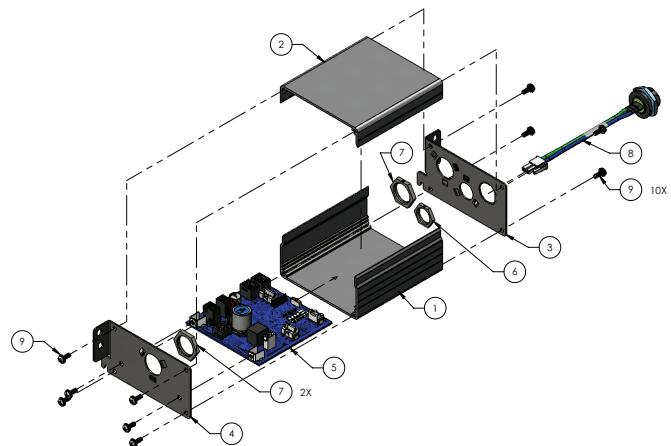
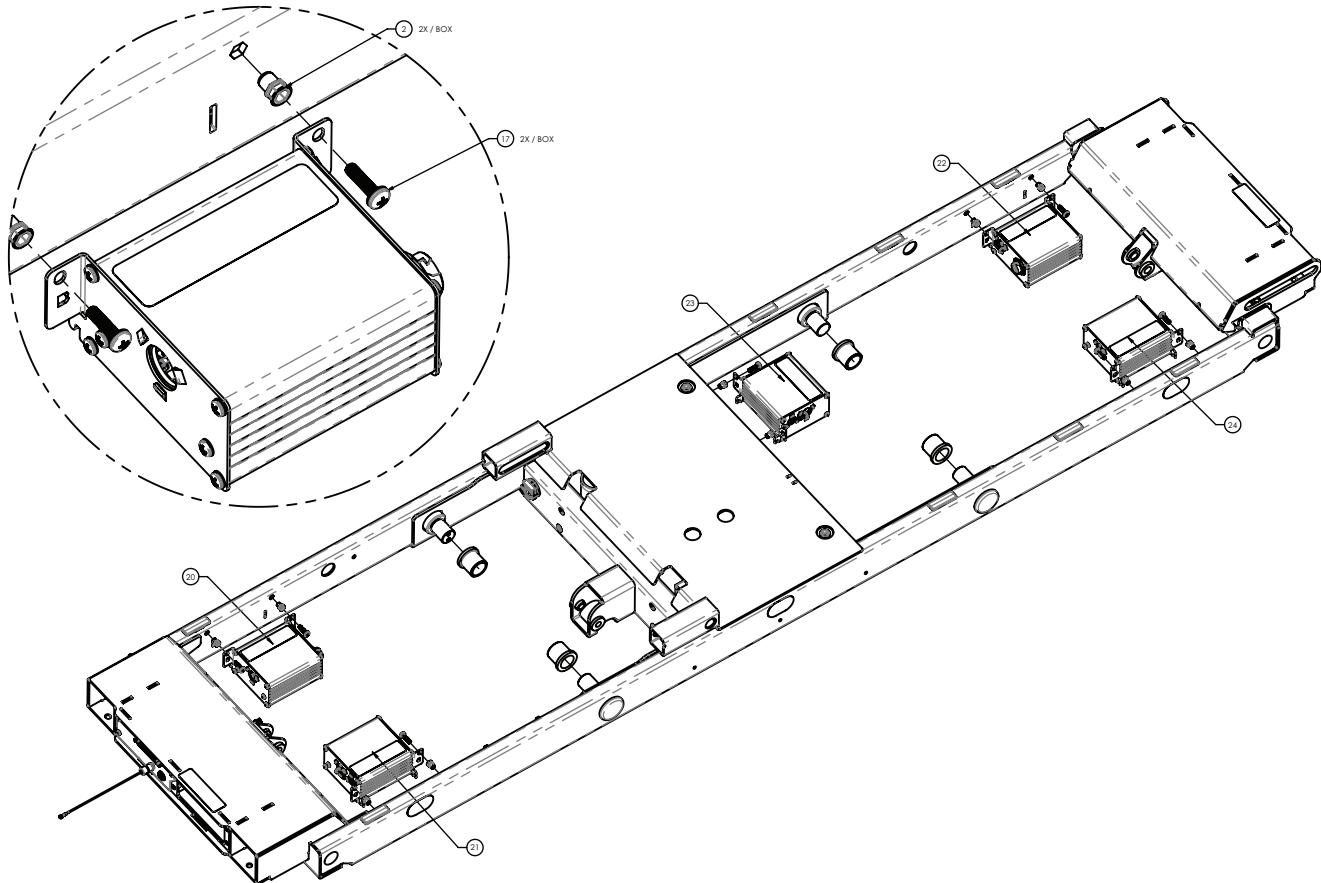

Figure 12 – ACB replacement
Figure 13 – ACB replacement
9. Using a #2 Phillips screwdriver, remove and save the four screws (9) that secure the ACB faceplate (2) to the ACB box (Figure 12).
11. Using a #2 Phillips screwdriver, remove and save the two screws (9) that secure the ACB (5) to the ACB box (Figure 12).
9. Using a #2 Phillips screwdriver, remove and save the two screws (17) that secure the ACB assembly (23) to the litter frame (Figure 13).
10. Lift upward on the ACB assembly (23) and unkey from the litter frame.
11. Using a #2 Phillips screwdriver, remove and save the four screws (9) that secure the ACB faceplate (2) to the ACB box (Figure 12).
13. Using a #2 Phillips screwdriver, remove and save the two screws (9) that secure the ACB (5) to the ACB box (Figure 13).
10. Using a #2 Phillips screwdriver, remove and save the four screws (9) that secure the ACB faceplate (2) to the ACB box (Figure 12).